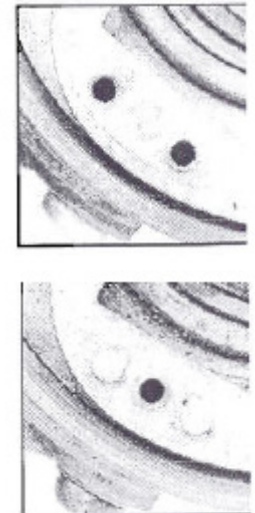

Fig. 4
5. Set the Ignitor plate onto condenser mounting point of the breaker plate. There are both single and dual screw condenser mounting configurations (See Figure 4). The Ignitor plate fits over both types. Confirm that the Ignitor plate is flat and fits without any modification. Fasten the plate in place using the provided screw or screws. **NOTE: IAP Series distributors require the removal of the point adjustment eccentric screw.**